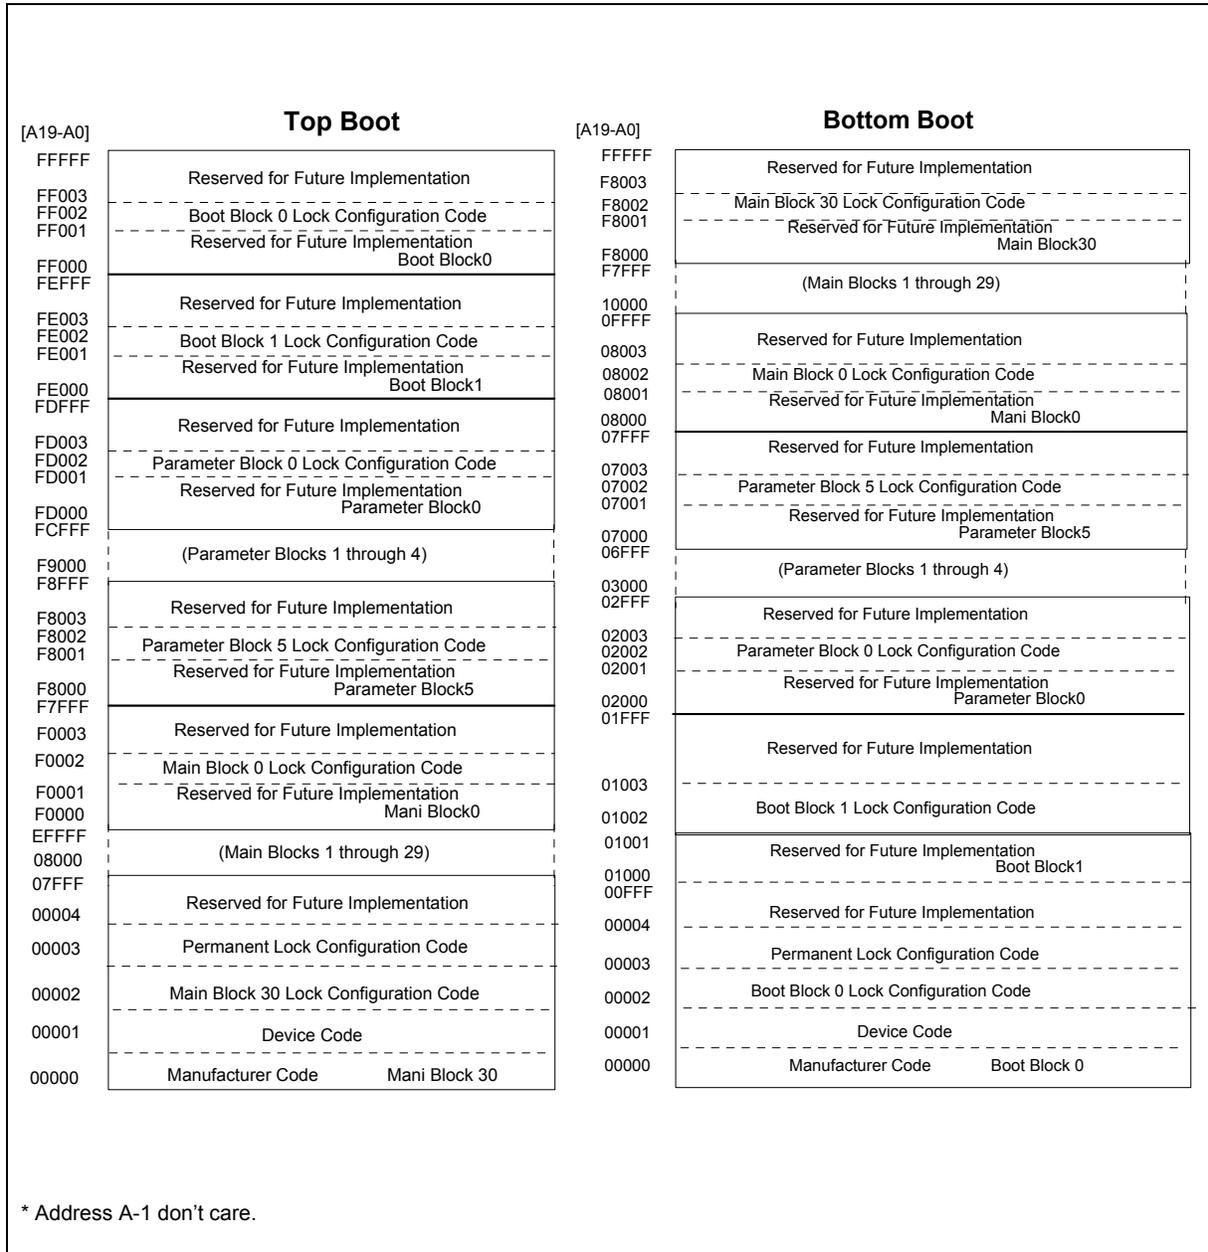

Figure 4. Device Identifier Code Memory Map
The read identifier codes operation outputs the manufacturer code, device code, block lock configuration codes for each block and the permanent lock configuration code (see Figure 4). Using the manufacturer and device codes, the system CPU can automatically match the device with its proper algorithms. The block lock and permanent lock configuration codes identify locked and unlocked blocks and permanent lock-bit setting.
IA = Identifier Code Address: see Figure 4.
The identifier code operation is initiated by writing the Read Identifier Codes command. Following the command write, read cycles from addresses, shown in Figure 4, retrieve the manufacturer, device, block lock configuration and permanent lock configuration codes (see Table 4 for identifier code values). To terminate this operation, write another valid command. Like the Read Array command, the Read Identifier Codes command functions independently of the VPP voltage and #RESET can be VIH. Following the Read Identifier Codes command, the following information can be read:
1. BA selects the specific block lock configuration code to be read. See Figure 4 for the device identifier code memory map.